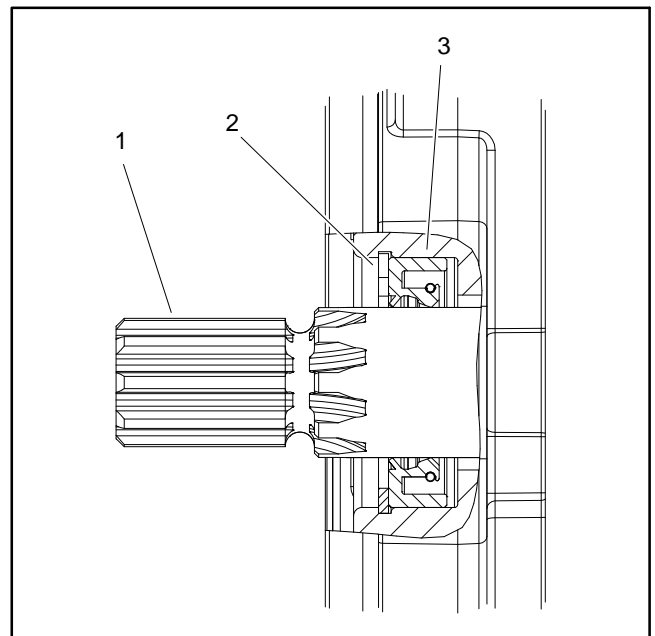

Figure 37
9. Carefully remove retaining ring and shaft seal from the front cover (Fig. 37). Discard removed seal.
2. Install new seal into front cover (Fig. 37):